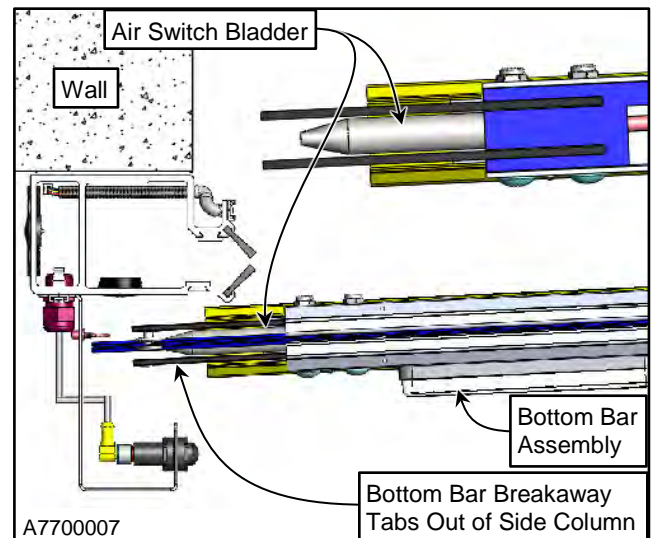

Figure 40
1. With the bottom bar separated from the side columns, locate the kill switch assembly bladder at each end of the bottom bar, and then inspect each bladder for damage. Replace if required. (See Figure 40)